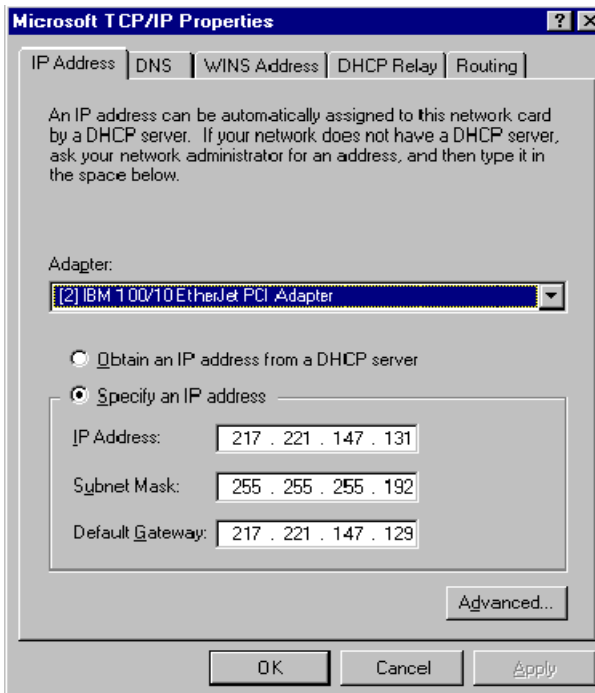

Figure 6-11. TCP/IP Properties
9. Click **C**lose to end network configuration. Windows NT will perform an automatic bind process. TCP/IP Direct Connect is bound to Microsoft's TCP/IP stack on the Netfinity server. When Windows NT attempts to perform this bind, the standard Microsoft TCP/IP Properties dialog box will display (Figure 6-11).